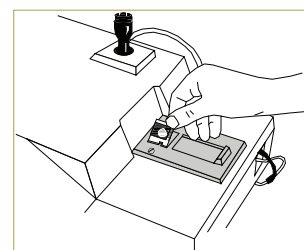

Figure D-1: Insert VetTest slide
- Insert the slides, one at a time, into the slide loading tray with the bar code facing up and the notch on the left (Figure D-1). After each slide is in place, gently push the loading tray forward as far as it will go, and then pull it back. The VetTest analyzer screen displays the number of slides inserted.